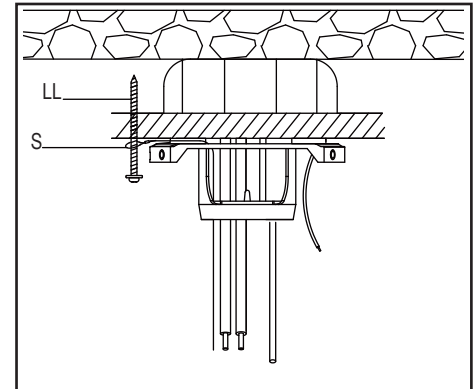

Figure 13
1. Turn the wood screw (LL)(not provided) into the ceiling.
2. Place the looped end of the safety cable (S) onto the wood screw and then tighten the screw firmly, or connect the safety cable directly to the electrical box. (Figure 13)